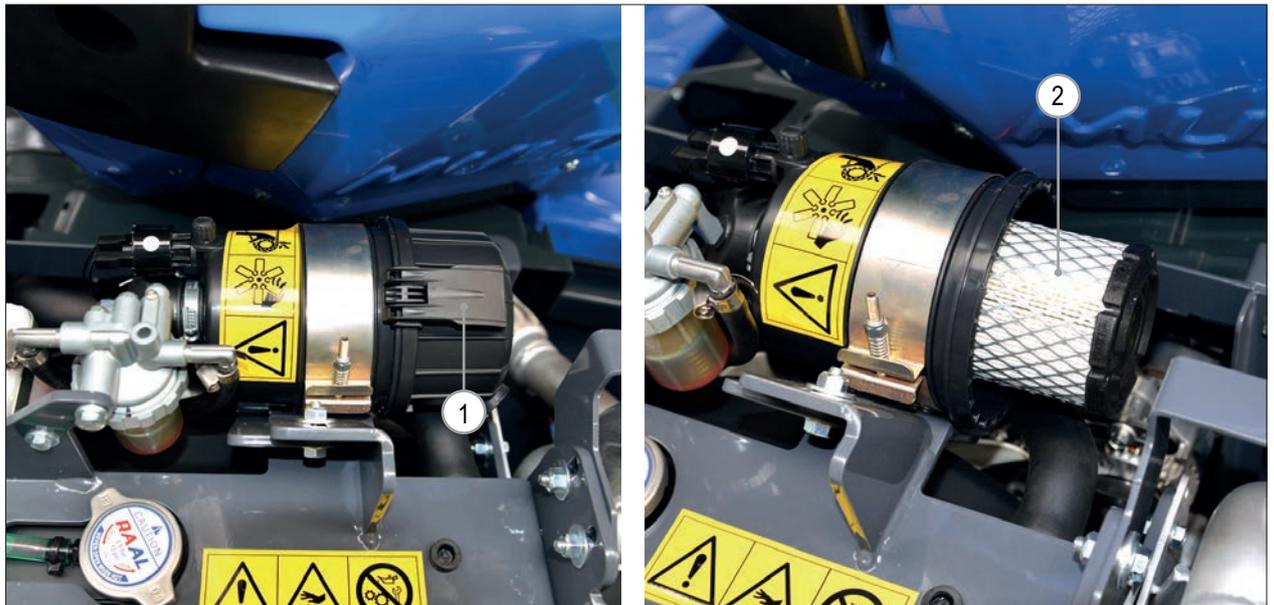

FIG. 56
- 4) Unhook the retaining clips and remove the end cap (FIG. 56 - Ref. 1).
- 5) Check the air cleaner element (FIG. 56 - Ref. 2), if cleaning is needed do it with low pressure air jets or replace with new genuine spare part.